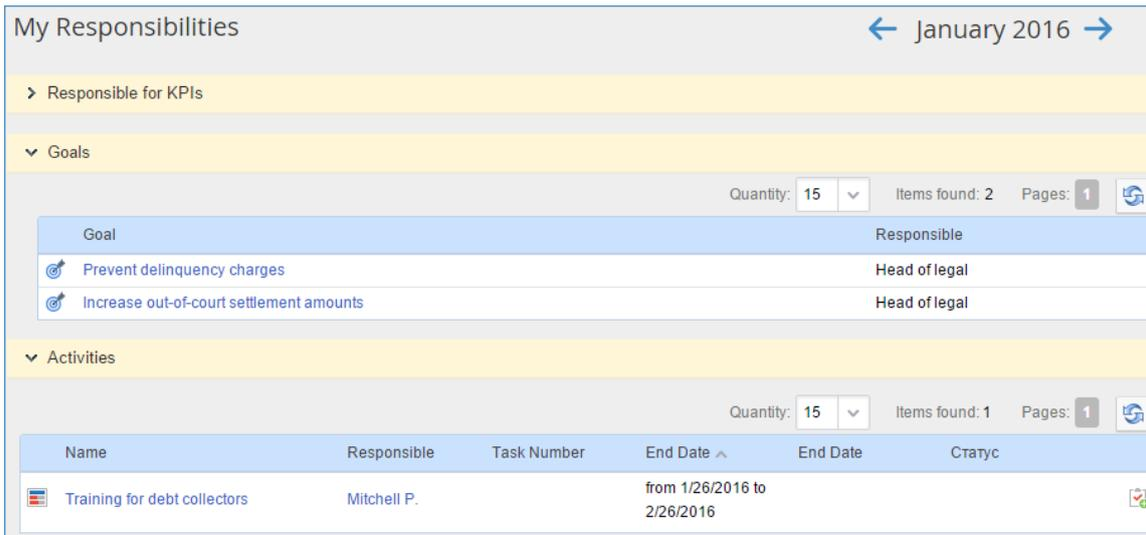

Fig. 121. My Responsibilities page
**My Responsibilities** button allows opening elements’ pages that give all information on each of those elements (Fig. 121).